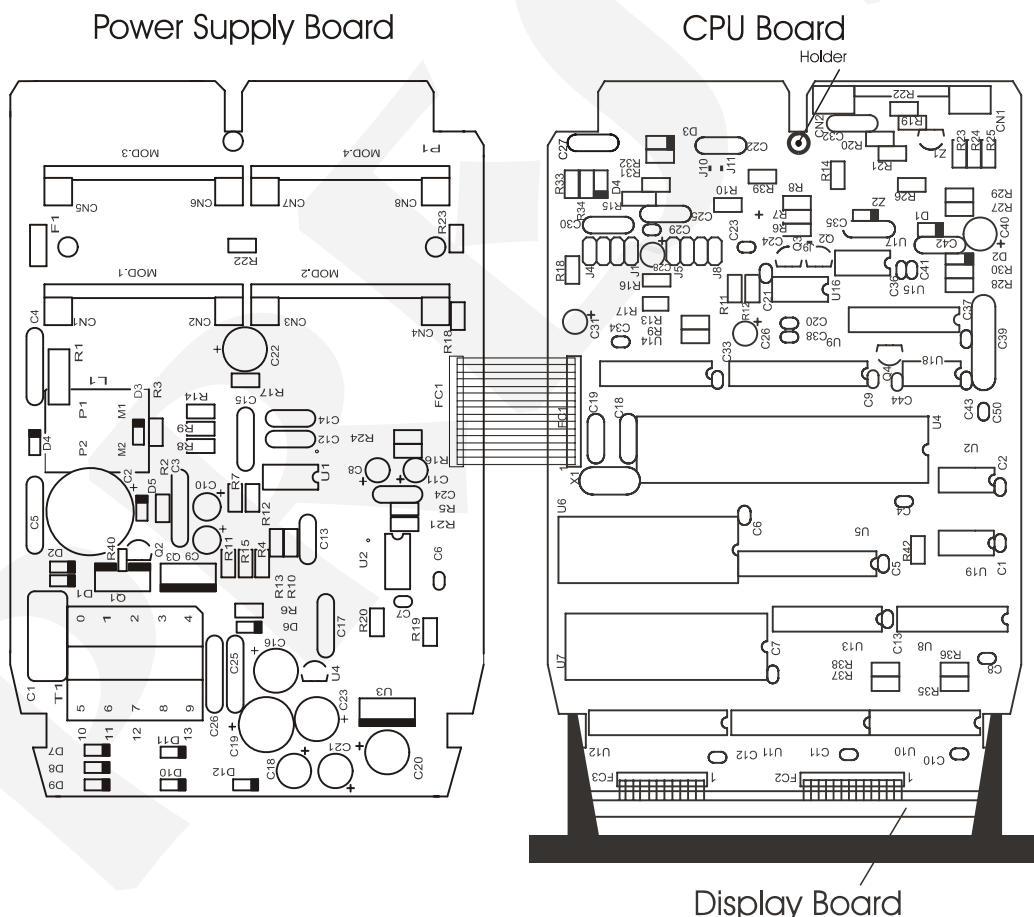

Figure 19 - Indicator hardware
- iv) Move the Power Supply Board to the right and open the boards according to Figure 19.